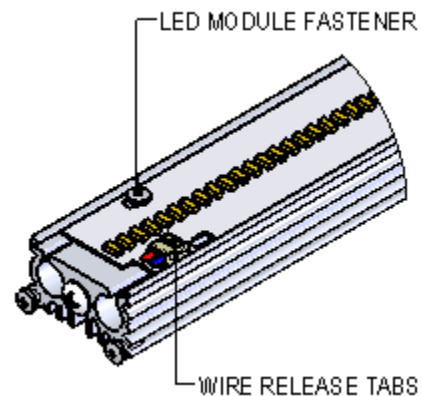

Fig.3
6. Remove the LED board. (To prevent damage from electrical static discharge, it is highly recommended that the technician and work area be properly grounded). Using a fine tipped instrument, press the wire release tabs shown in figure 3 and remove the wires.